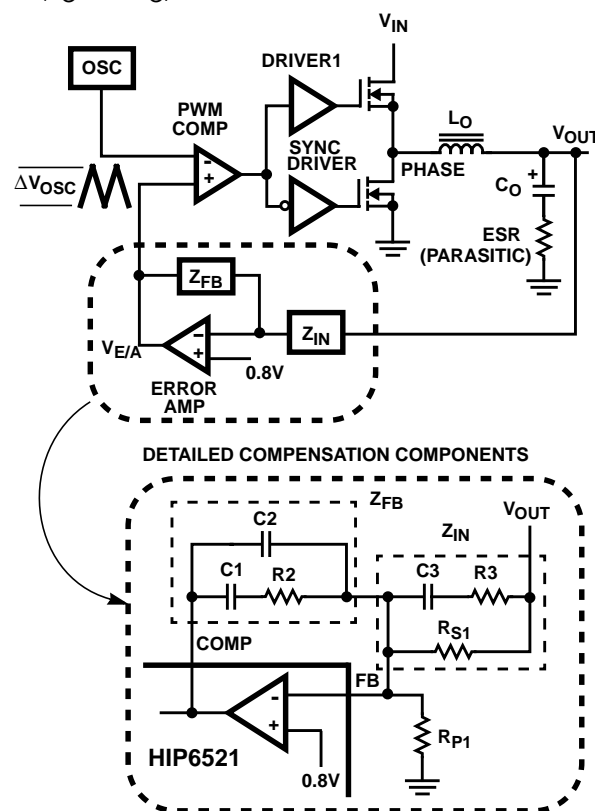
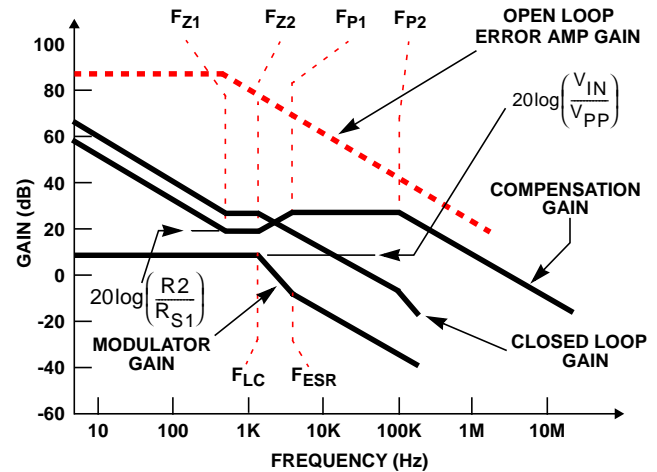

FIGURE 6. VOLTAGE-MODE BUCK CONVERTER COMPENSATION DESIGN
FIGURE 7. ASYMPTOTIC BODE PLOT OF CONVERTER GAIN
Figure 6 highlights the voltage-mode control loop for a synchronous-rectified buck converter. The output voltage (V_{OUT}) is regulated to the Reference voltage level, 0.8V. The error amplifier (Error Amp) output ($V_{E/A}$) is compared with the oscillator (OSC) triangular wave to provide a pulse-width modulated (PWM) wave with an amplitude of V_{IN} at the PHASE node. The PWM wave is smoothed by the output filter (L_O and C_O).
The compensation network consists of the error amplifier (internal to the HIP6521) and the impedance networks Z_{IN} and Z_{FB} . The goal of the compensation network is to provide a closed loop transfer function with high 0dB crossing frequency (f_{0dB}) and adequate phase margin. Phase margin is the difference between the closed loop phase at f_{0dB} and 180 degrees. The equations below relate the compensation network's poles, zeros and gain to the components (R_1 , R_2 , R_3 , C_1 , C_2 , and C_3) in Figure 6. Use these guidelines for locating the poles and zeros of the compensation network:
Figure 7 shows an asymptotic plot of the DC-DC converter's gain vs. frequency. The actual Modulator Gain has a high gain peak dependent on the quality factor (Q) of the output filter, which is not shown in Figure 6. Using the above guidelines should yield a Compensation Gain similar to the curve plotted. The open loop error amplifier gain bounds the compensation gain. Check the compensation gain at F_{P2} with the capabilities of the error amplifier. The Closed Loop Gain is constructed on the log-log graph of Figure 10 by adding the Modulator Gain (in dB) to the Compensation Gain (in dB). This is equivalent to multiplying the modulator transfer function to the compensation transfer function and plotting the gain.